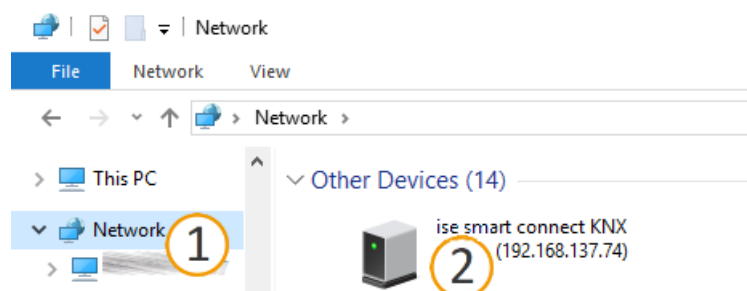

Figure 16: Accessing the device website via the network environment
- Alternatively, select the device in the network environment category <<Other devices>> (see figure 16, pos. 1): Double click on the device icon (see figure 16, pos. 2).